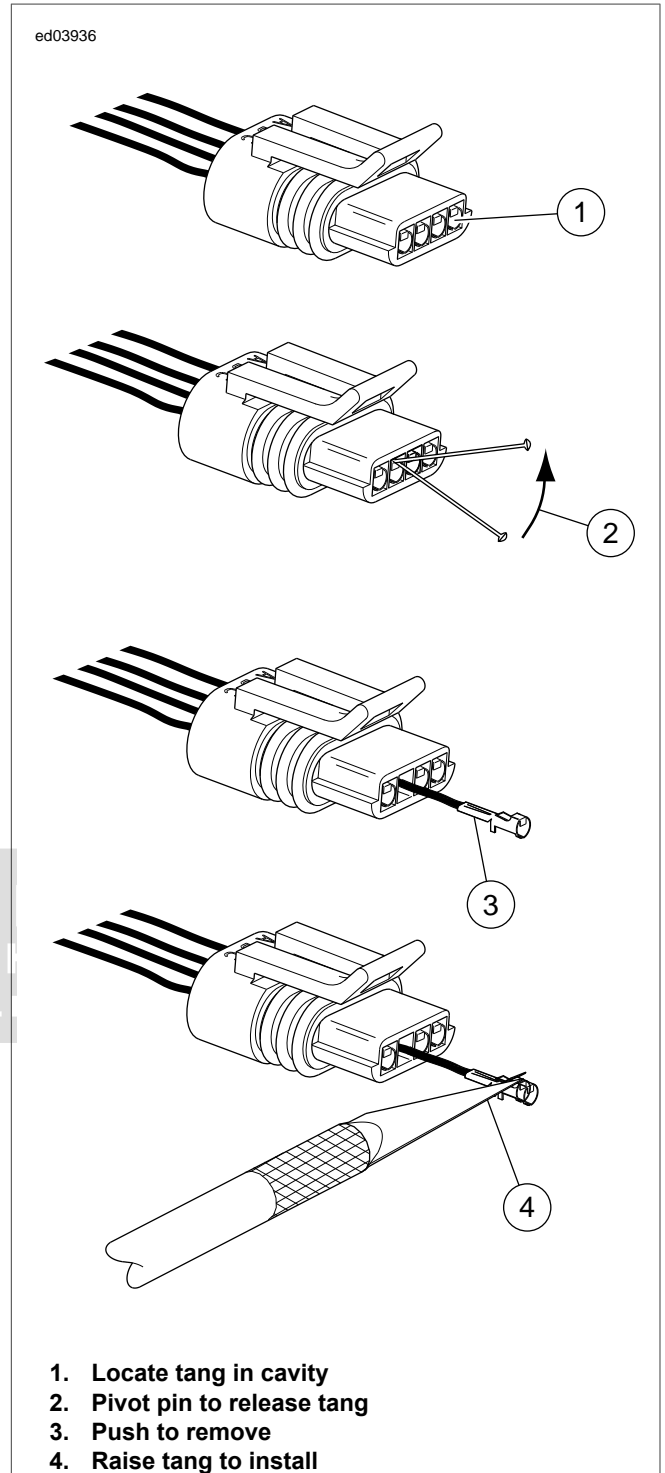

Figure B-9. Delphi 150.2 Metri-Pack Sealed Connector: Pull-to-Seat
1. See Figure B-9. Find the locking tang in the mating end of the connector.